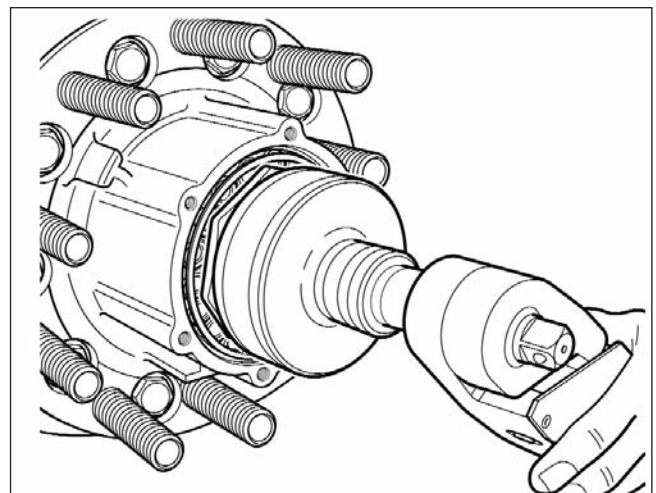

Fig. 4.17
- T** Fit the hub locknut and tighten **using a suitable size socket** ($\frac{3}{4}$ " drive recommended), to 340-408 Nm (Fig. 4.17).